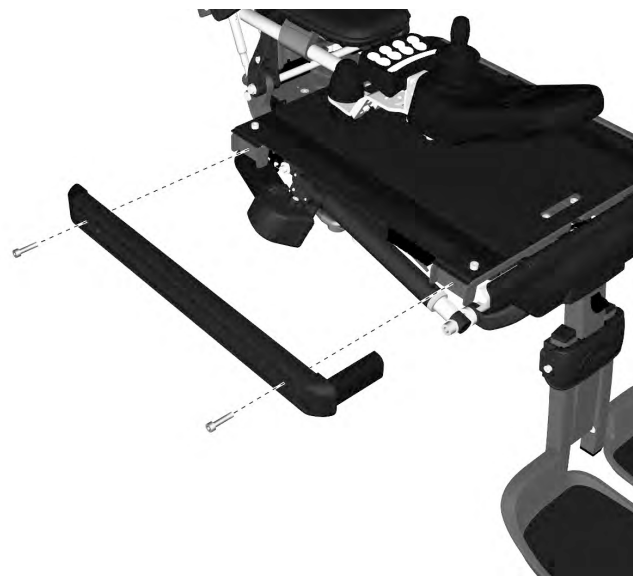

Figure 246. The UniTrack rails are fixed in place with two screws each.
- 10. Mount UniTrack rails of a suitable length for the seat depth setting. The rails are each held in place by two screws. See the fig. 246. Use a torque wrench to tighten the screws. **Tightening torque 9.8 Nm / 7.2 Ft/lbs.**